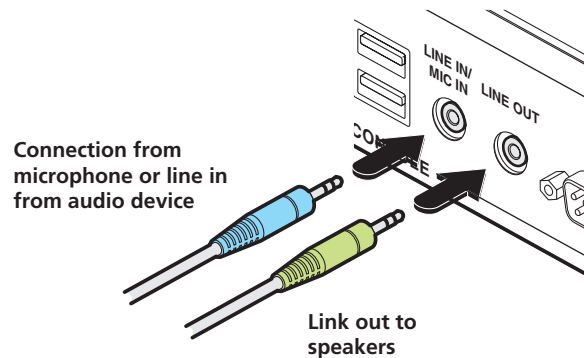

Figure 3-19. Connect the speaker and microphone cables to audio sockets.
- 1 Connect the lead from a mono microphone or, alternatively, a line in connection from an audio device to the 3.5mm socket labelled **LINE IN/MIC IN** on the rear panel. See Figure 3-19.